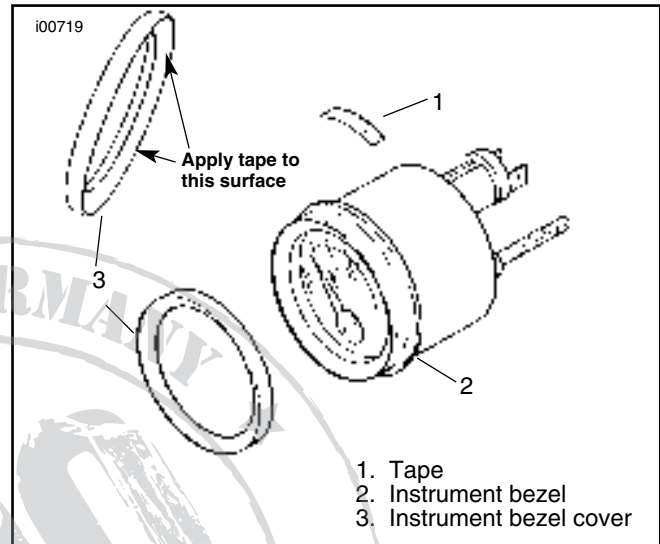

Figure 1. Chrome Instrument Bezel Installation
2. See Figure 1. Apply one adhesive tape strip around the inside surface of each cover in the area where the cover will meet with the outside surface of the gauge bezel. With brown paper still in place, press tape firmly to ensure adhesion to cover.
4. Press the instrument bezel covers (3) firmly onto instrument bezels.